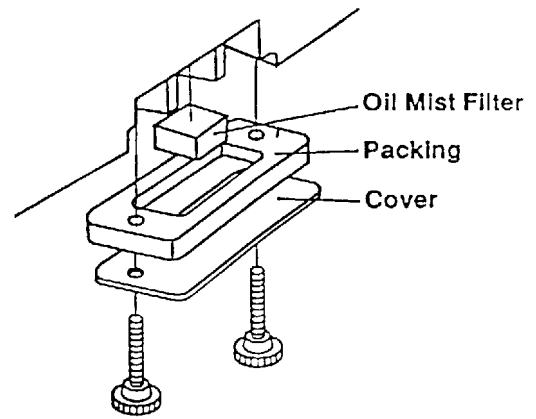

Fig.5-3 Cleaning Oil Mist Separator
- (6) Cleaning Oil Mist Separator (Fig.5-3)